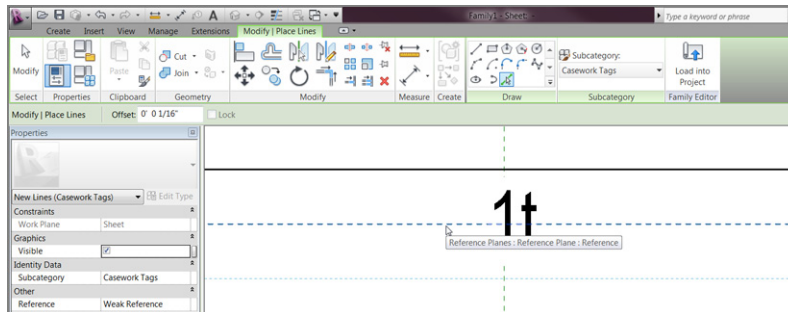

FIGURE 11.78: Offsetting the horizontal reference plane up and down
4. Zoom into the label, and then offset the horizontal reference plane up 1/16" (1.5mm) and down 1/16" (1.5mm), as shown in Figure 11.78.